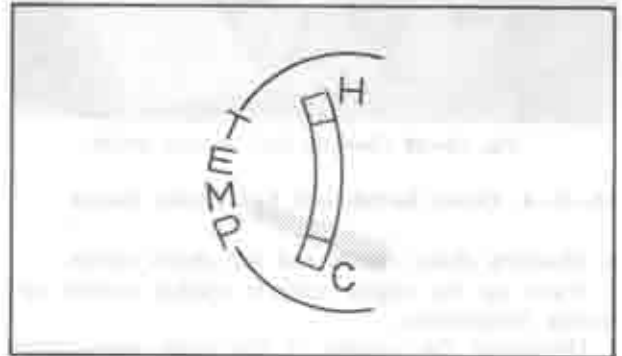

Fig. 1A-27 Water temperature gauge
5. Leave the engine running and check to see that the choke knob returns automatically when the water temperature gauge is indicated the range shown in Fig. 1A-27.